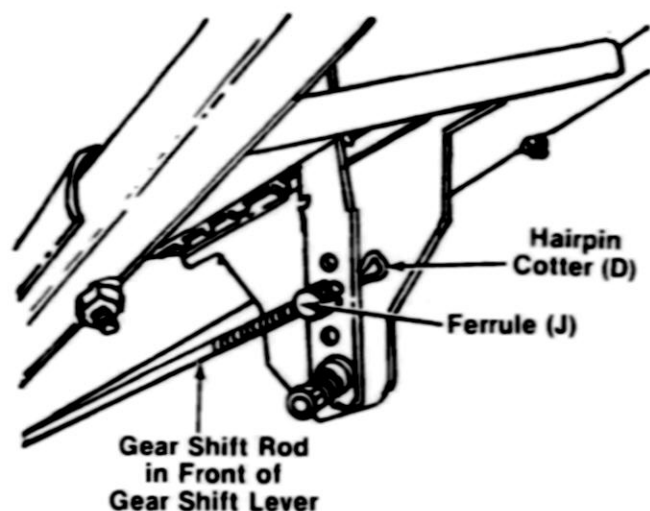

FIGURE 13.
5. Thread ferrule (J) on other end of gear shift rod. See figure 13.